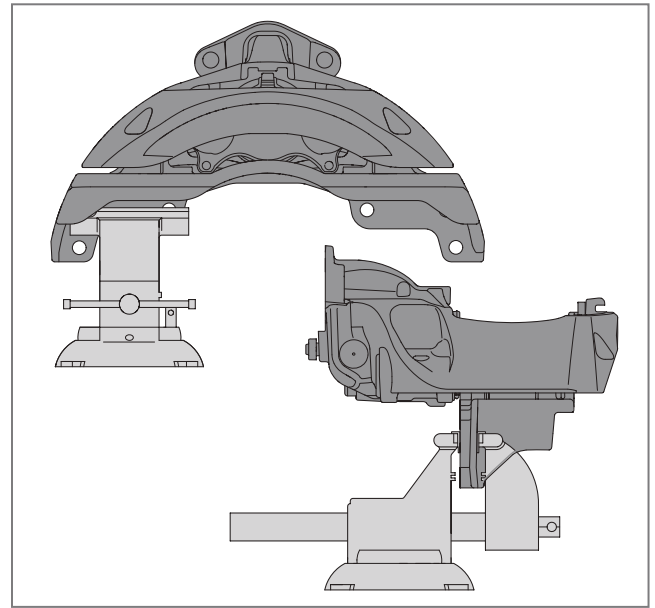

Fig. 48 - Clamping device for replacing the adjustment screw bellows
1. Fasten the disc brake securely in a vice with soft jaws, see ► Fig. 48. Ensure that the jaws of the vice do not damage the disc brake.